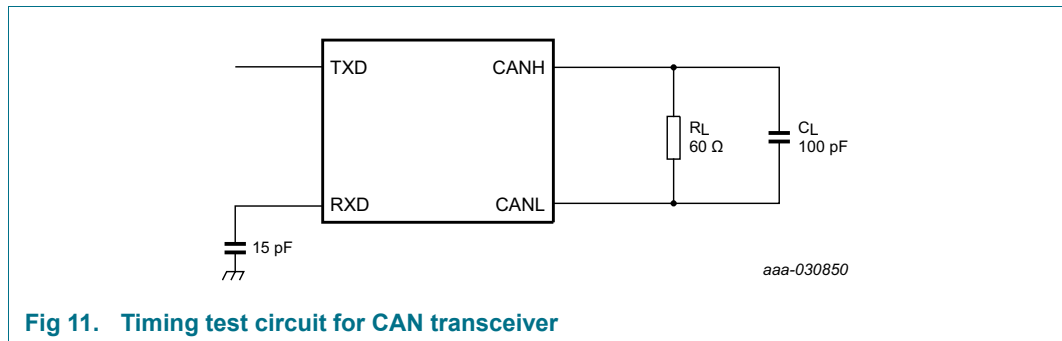

Fig 11. Timing test circuit for CAN transceiver
- [2] See Figure 8 and Figure 11.
- [3] See Figure 9 and Figure 11.